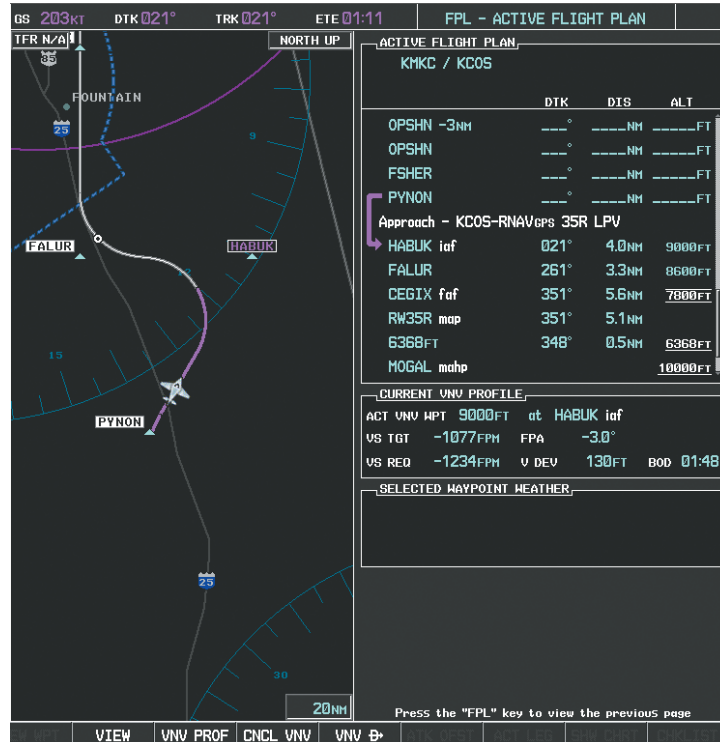

Figure 5-147 Approach is Now Active
- 21) Upon passing PYNON the approach procedure automatically becomes active. The approach may be activated at any point to proceed directly to the IAF. In this example, the aircraft has progressed through the final waypoint of the arrival and the flight plan has automatically sequenced to the IAF as the active leg, activating the approach procedure (see Figure 5-147).